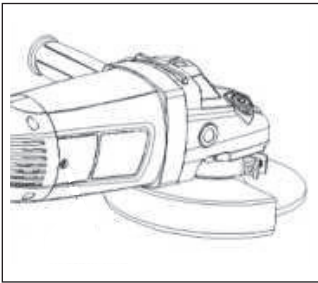

Fig 8
■ Replacing carbon brushes (Fig 8)